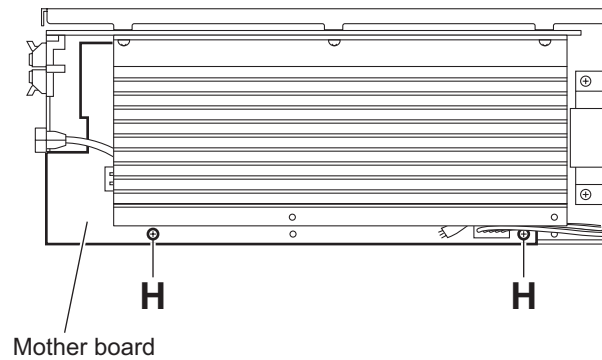

Fig.8
3.4.5 Removing the mother board (See Figs.8 and 9)
- (1) From the top side of the amplifier assembly, remove the two screws **H** attaching the mother board. (See Fig.8)